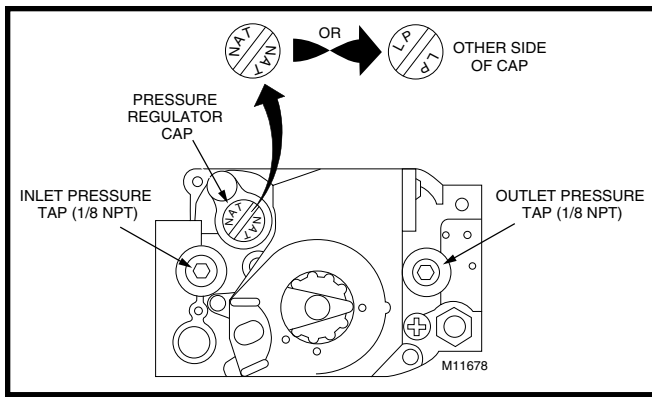

Figure 28. Honeywell Gas Valve
- A 1/8" NPT plugged tappings for test gauge connection are present on the gas valve. See Figure 28 \(page 20\) for locations
- b. Remove three (3) bolts from U-shaped manifold plate and orifice assembly (M1B Models).
- a. Unscrew the pressure regulator cap and check for the letters NAT or LP. See Figure 28 \(page 20\).